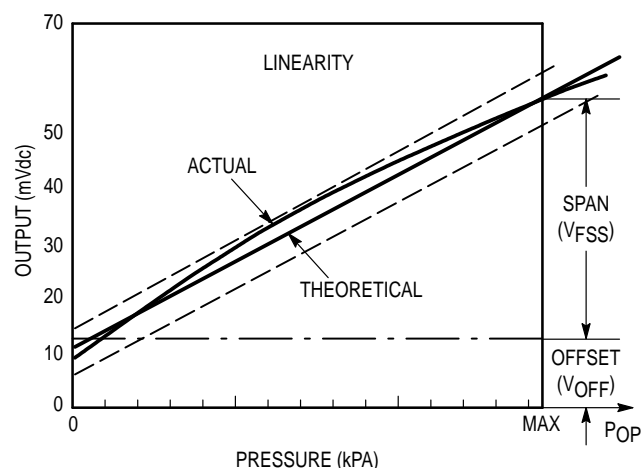

Figure 3. Linearity Specification Comparison
Linearity refers to how well a transducer's output follows the equation:  $V_{\text{out}} = V_{\text{off}} + \text{sensitivity} \times P$  over the operating pressure range (Figure 3). There are two basic methods for calculating nonlinearity: (1) end point straight line fit or (2) a least squares best line fit. While a least squares fit gives the "best case" linearity error (lower numerical value), the calculations required are burdensome.